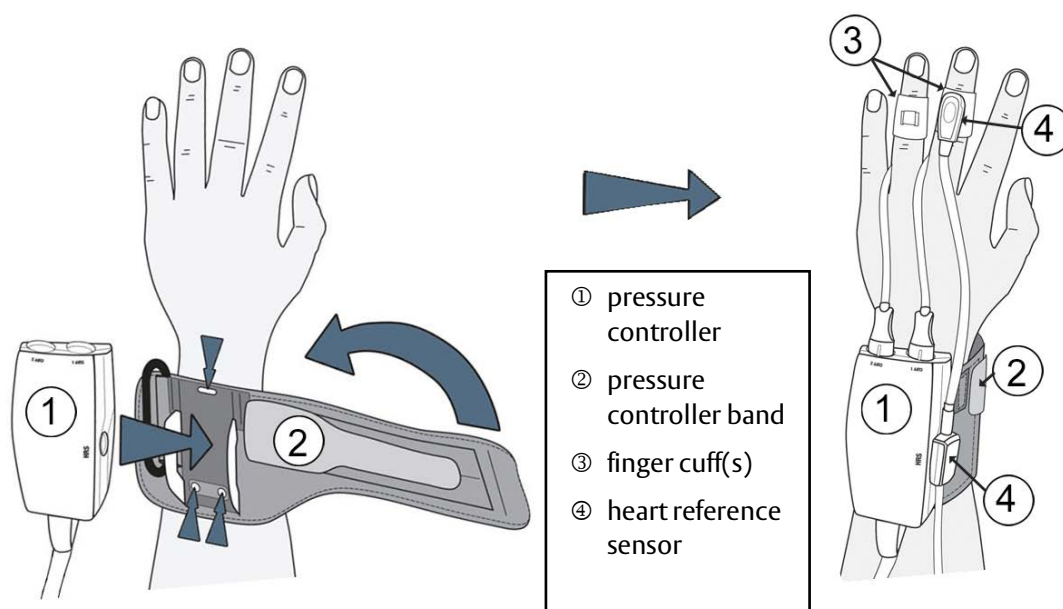

Figure 10-2 Pressure controller application
The pressure controller kit (PC2K or HEMPC2K) consists of a pressure controller (PC2 or HEMPC) and accompanying band (PC2B). A pressure controller cover is available as an accessory. The pressure controller cover secures the heart reference sensor into the pressure controller. See *Pressure Controller Cover* on page 365. Device performance, including functional characteristics, have been verified in a comprehensive series of testing to support the safety and performance of the device for its intended use when used in accordance with the established Instructions for Use. The pressure controller is worn on the patient's wrist and connects to the HemoSphere Alta advanced monitor, HRS and finger cuff(s). See figure 10-2.
- 1 Wrap the pressure controller band around the patient's wrist. The non dominant hand is preferred for monitoring in awake patients. (figure 10-2, left)